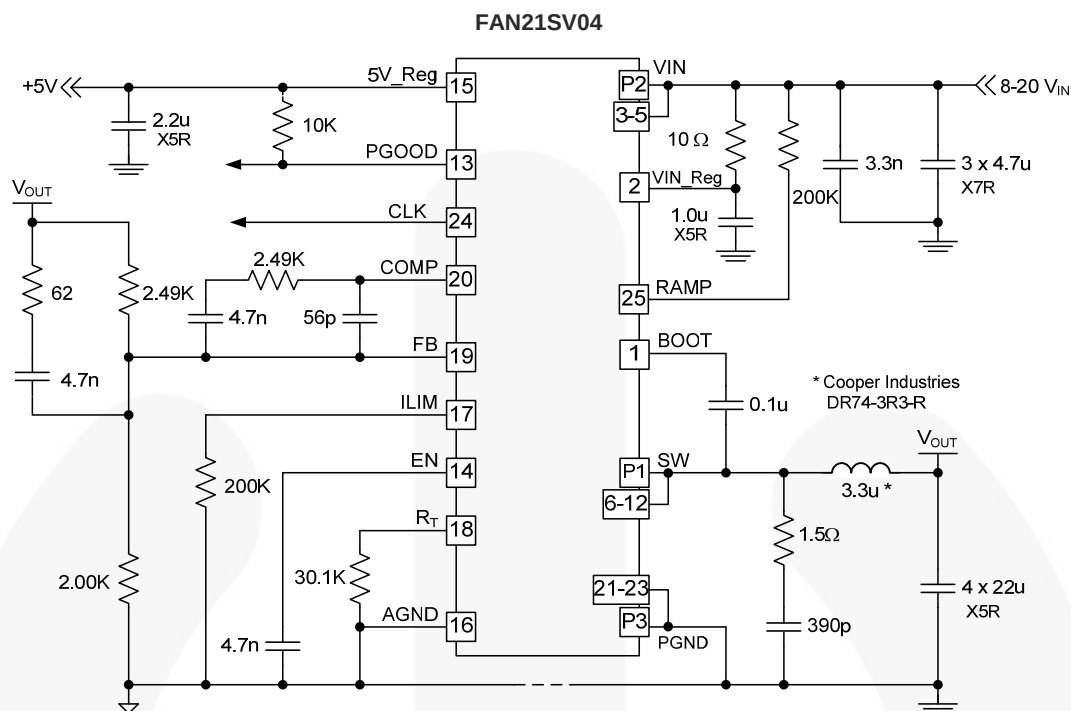
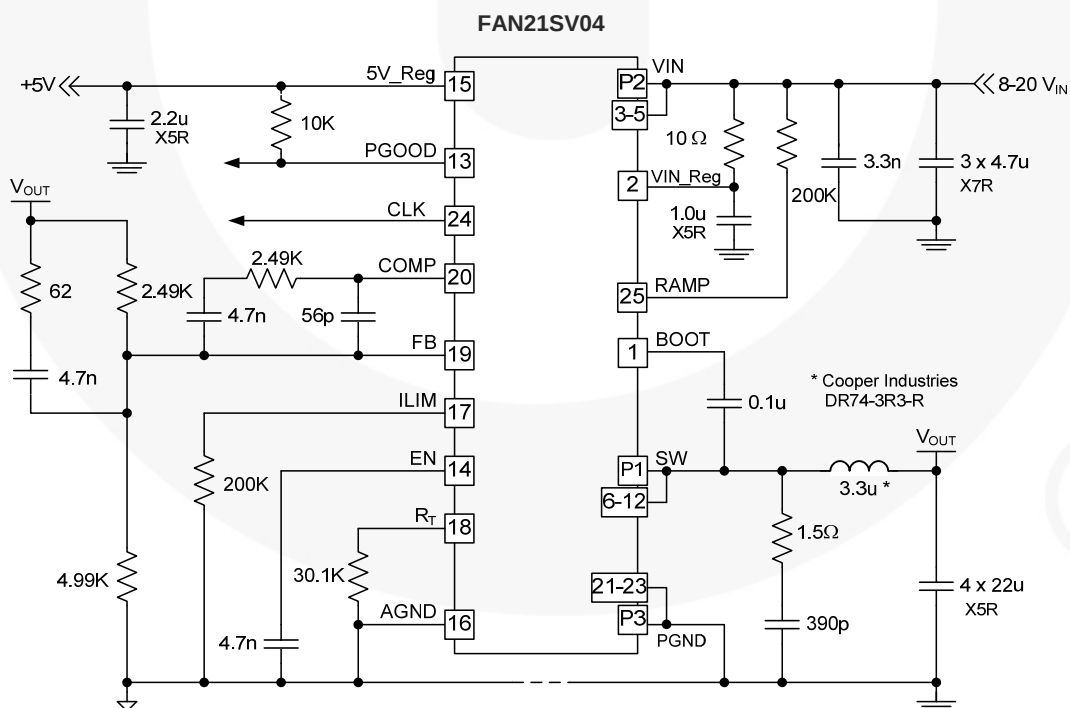

Figure 10. Single-Supply Application Circuit: 1.8VOUT, 500KHz, Master, 8V – 20V Input
Figure 11. Single-Supply Application Circuit: 1.2 VOUT, 500KHz, Master 8V – 20V Input
Typical operating characteristics using the Figure 10 circuit;  $V_{IN}=12V$ ,  $V_{CC}=5V$ ,  $T_A=25^\circ C$ , unless otherwise specified.
4. Circuit values for this configuration change in Figure 10.
Typical operating characteristics using the Figure 10 circuit;  $V_{IN}=12V$ ,  $V_{CC}=5V$ ,  $T_A=25^{\circ}C$ , unless otherwise specified.
5. Circuit values for this configuration change in Figure 10.
Typical operating characteristics using the Figure 10 circuit.  $V_{IN}=12V$  unless otherwise specified.
For applications with  $V_{IN} < 6.5V$ , FAN21SV04 can be used if  $V_{IN\_Reg}$  is provided with a separate low-power source  $>6.5V$ .  $V_{IN\_Reg}$  supply should come up after  $V_{IN}$  during dual-supply operation. The  $V_{IN\_Reg}$  pin should always be decoupled with at least a  $10\Omega$  resistor and a  $1\mu F$  ceramic capacitor (see Figure 10, Figure 11).